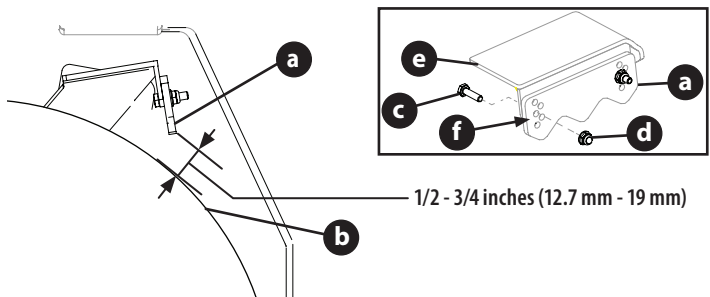

Fig. 24
- With the parking brake disengaged, measure the gap between the brake wedge (a) and the rear tire (b) on both sides of the mower (Fig. 24). This measurement must be 1/2 to 3/4 inches (12.7 mm - 19 mm).
- If necessary, perform the following to adjust the brake wedges (Fig. 24):